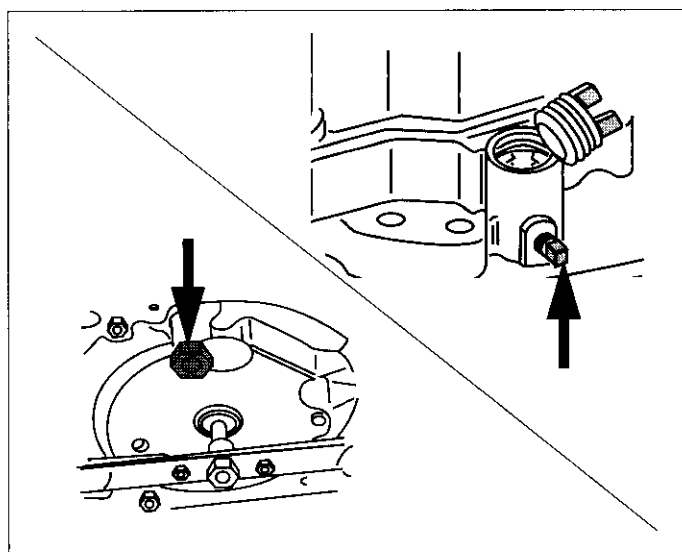

Figure 21. Oil Drain Plug Locations
4. Clean area around oil drain plug. See Figure 21.
6. Remove oil drain plug and drain oil into an approved container. See Figure 21.